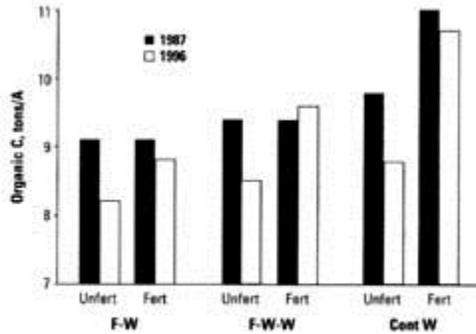

Figure 2. Effect of cropping frequency and fertilizer N+P on SOC in the 0 to 3-inch depth after 30 and 39 years.
The problem does not end with poorer grain yield and likely lower protein. It also leads to lower soil organic matter in the long-term (Figure 2). Lower grain yields mean less crop residues. Crop residues provide the raw materials for building soil organic matter. The impact of the change to no-tillage was evident when we compared soil organic carbon (SOC) before and after the change to no-till. The systems fertilized with N plus phosphorus (P) were able to maintain SOC, but the unfertilized wheat rotations actually lost SOC. For example, all three unfertilized rotations lost about 1 ton SOC per acre between 1987 and 1996, 6 years after the change to no-till, while SOC in the fertilized systems remained relatively constant.